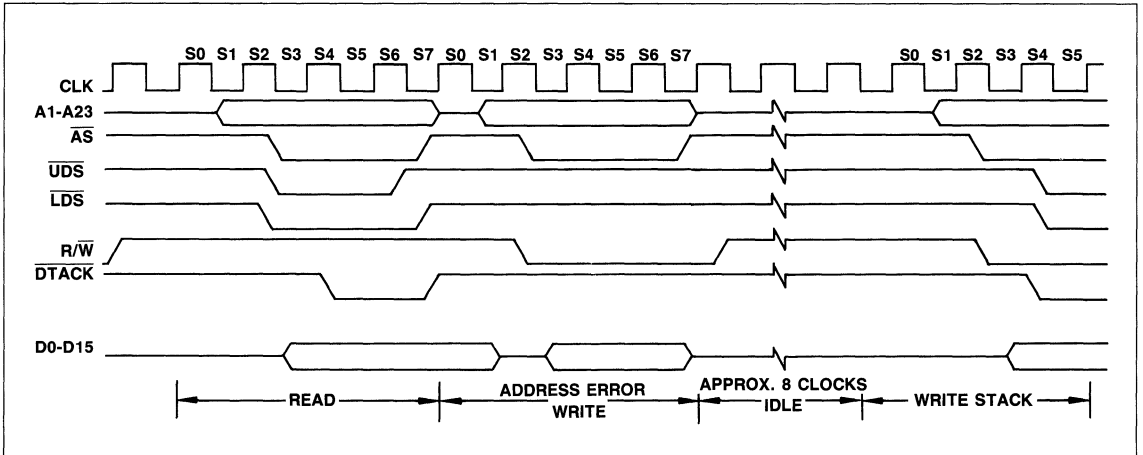

Figure 32. Address Error Timing
**ADDRESS ERROR.** Address error exceptions occur when the processor attempts to access a word or a long word operand or an instruction at an odd address. The effect is much like an internally generated bus error, so that the bus cycle is aborted, and the processor ceases whatever processing it is currently doing and begins exception processing. After exception processing commences, the sequence is the same as that for bus error including the information that is stacked, except that the vector number refers to the address error vector instead. Likewise, if an address error occurs during the exception processing for a bus error, address error, or reset, the processor is halted. As shown in Figure 32, an address error will execute a short bus cycle followed by an exception processing.